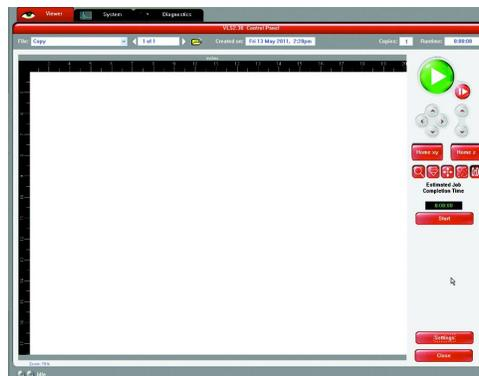

Figure 6
- Launch the UCP by selecting the square red UCP icon on the taskbar and the current print job will appear in the Viewer Tab of the Universal Control Panel (Figure 6).
- Press the green START button on the UCP to begin laser processing (Figure 6 on previous page).